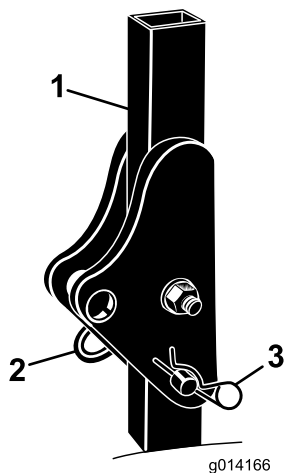

Figure 5
1. Remove the hairpin cotters and the pins from the roll bar (Figure 5).
2. Raise the roll bar to the upright position and install the 2 pins and secure them with the hairpin cotters (Figure 5).